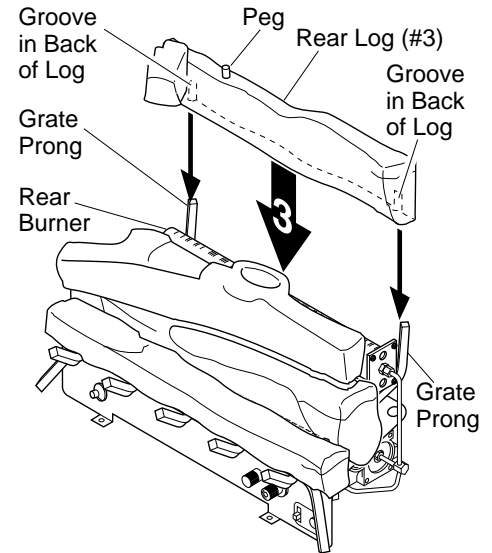

Figure 18 - Installing Rear Log (#3)
3. Slide the grooves in the back of the rear log (#3) against the rear grate prongs. Make sure the peg on the log is on top (see Figure 18).